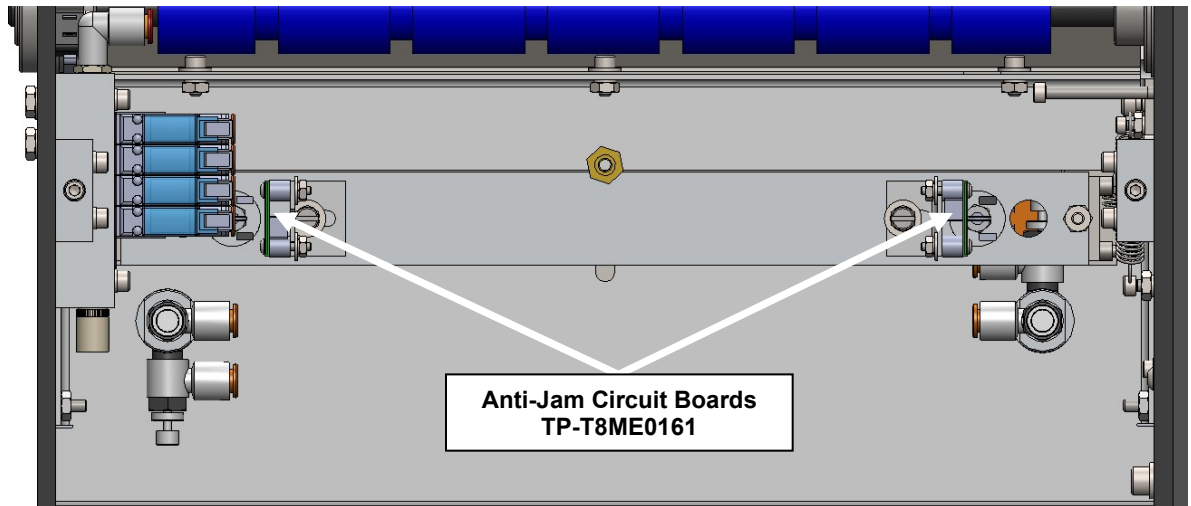
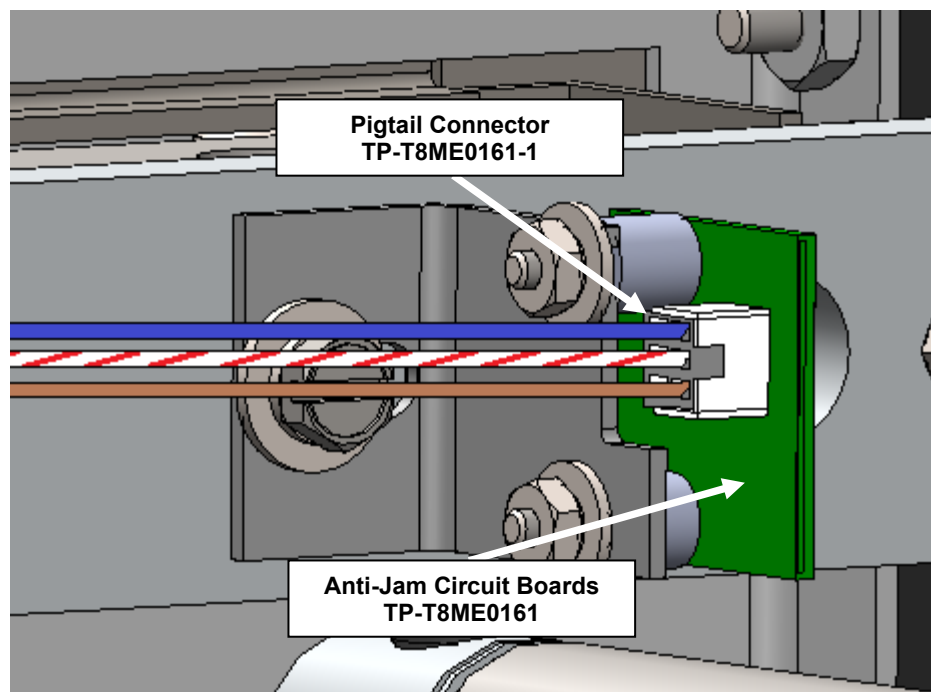

Figure 4-8
Figure 4-9
9. If one side does not turn on, you may have a bad connector, a bad Anti-Jam Circuit Board, or the Sensor may need to be adjusted. To check the Actuator Sensor and determine which of these issues you need to address, locate the Anti-Jam Circuit Boards and “Pig Tail” Connectors (TP-T8ME0161-1) on the back side of the T-275. See Figure 4-8 and Figure 4-9.